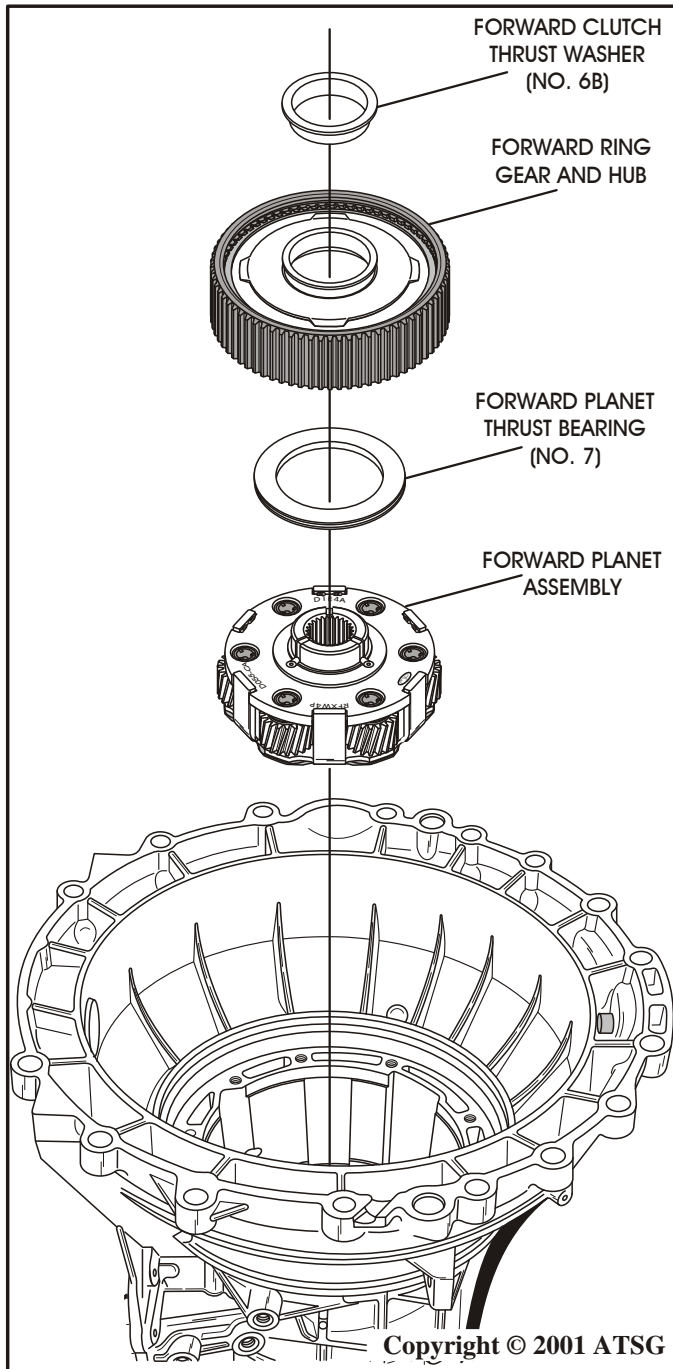

Figure 47
52. Remove forward ring gear and hub assembly along with the forward clutch (No. 6B) thrust washer, as shown in Figure 47.
53. Remove and tag for I.D. the forward planet (No. 7) thrust bearing (See Figure 47).
54. Remove the forward planetary carrier assembly as shown in Figure 47.